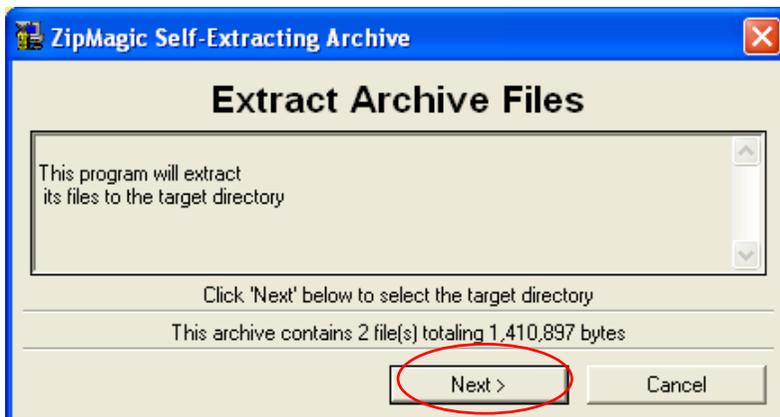

Figure 86:
1. Explore supplied disk on key and run 'TSI Flow_Zipped'. the following will appear SW (Figure 86)